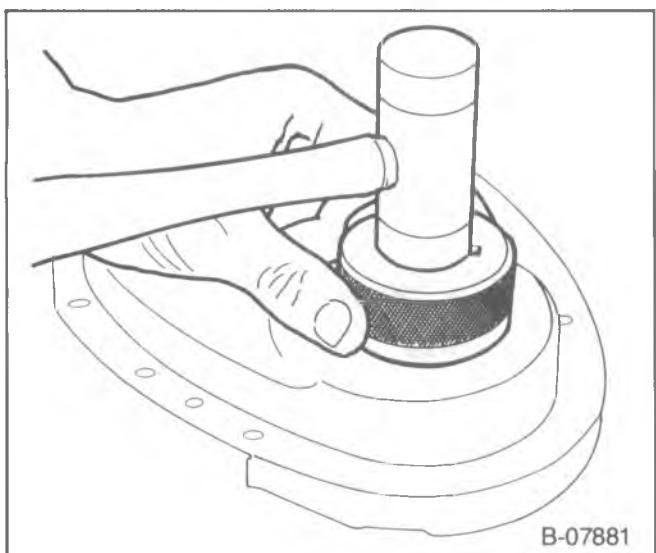

Figure 33—Installing the Front Crankshaft Seal (Typical)
☒ Assemble (Figure 33)
- Front crankshaft seal. Use J-35468 (5.0 L and 5.7 L engines) or J-22102 (7.4 L engines) (figure 33). The open end of the seal must be facing the inside of the front cover.